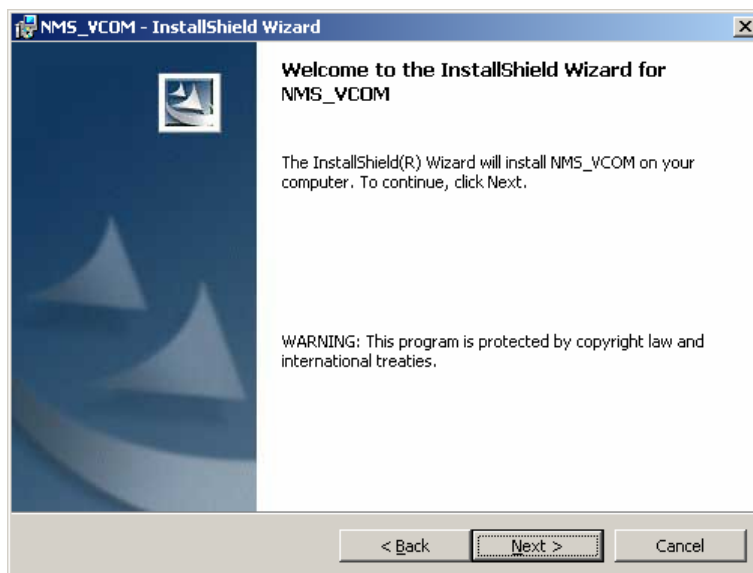

Figure 30. Welcome Screen
- Click the **Next** button. The Welcome screen appears (see Figure 30).